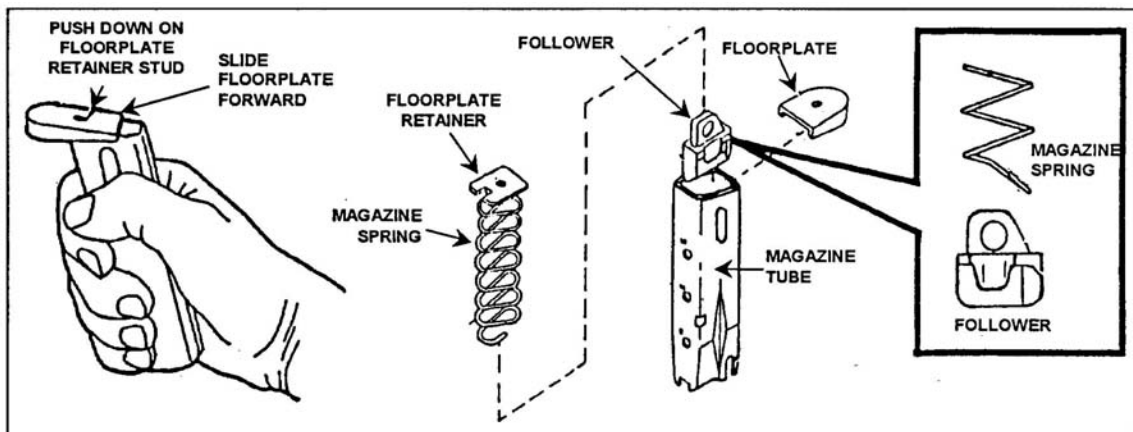

Figure 4. Disassembly of the magazine.
- i. Disassemble the magazine (Figure 4).
- (1) Attach a bore brush to a cleaning rod. Moisten the bore brush with CLP and insert it into the chamber end of the barrel. Make sure the brush completely clears the muzzle before you pull it back through the bore. Repeat this procedure several times to loosen carbon deposits.
- (2) To clean and dry the barrel, push a clean swab through the bore. Repeat as necessary with fresh swabs until a swab comes out clean.
- (3) Clean locking block with a soft brush.
- (4) Clean the recoil spring and spring guide with CLP and a soft brush or cloth.
- d. Magazine (Figure 4).
- (1) Wipe the magazine tube and the follower with CLP, a cloth, and a soft brush.
- (2) Clean the magazine spring, floor plate retainer, and floor plate with a clean cloth.
- (1) Check for bends, chips, and cracks.
- (2) Check to ensure the slide stop and magazine stop move freely.
- (3) Check the guide rails for excessive wear, burr, cracks, or chips.
- e. Magazine assembly (Figure 4).
- (1) Check for damage to the spring and follower.
- (2) Inspect magazine lips to ensure they are not bent excessively and to ensure they have no cracks and burrs.